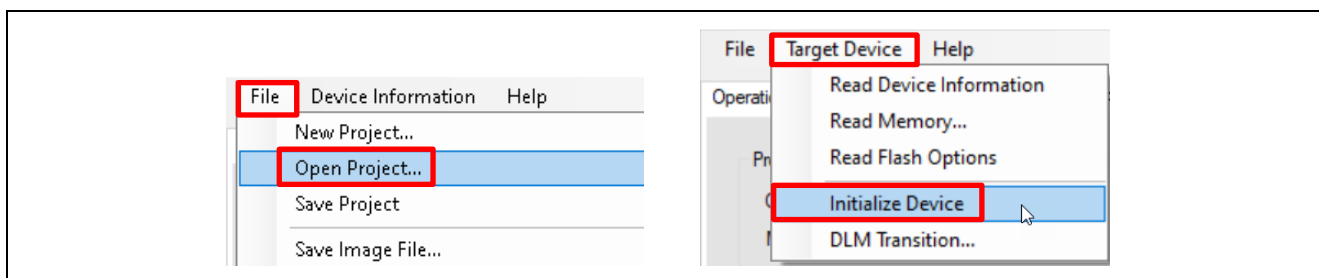

Figure 102. Open RFP Project and Initialize the Device
3. Select **Target Device** → **Initialize Device** as shown in Figure 102.